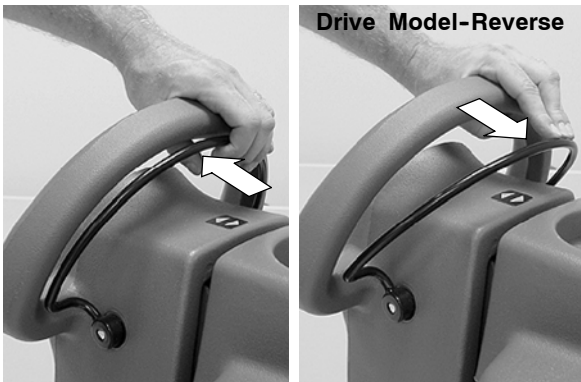

FIG. 17
6. Pull the control handle bail backwards to start scrubbing (Figure 17). The drive model will automatically propel forward. To reverse the drive model, simply push the control handle bail forward.